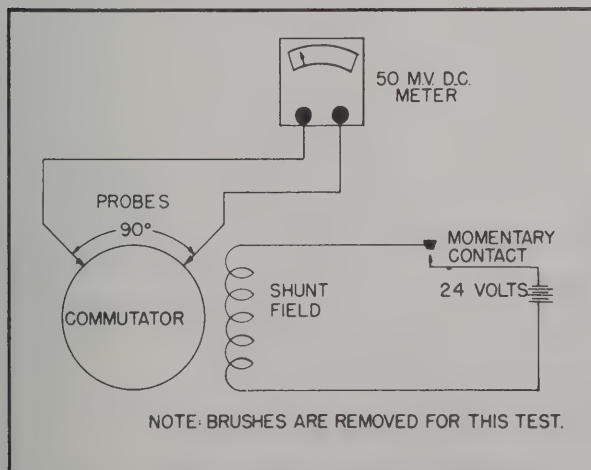

Figure 7-3. Neutral Setting Wiring Diagram
7-7. SETTING BRUSH NEUTRAL. (See figures 7-3 and 7-4.)
b. Connect a DC millivoltmeter (0-50 millivolts) such as used to measure DC amperes in conjunction with an external shunt to a pair of insulated test probes. (See figure 7-3.)